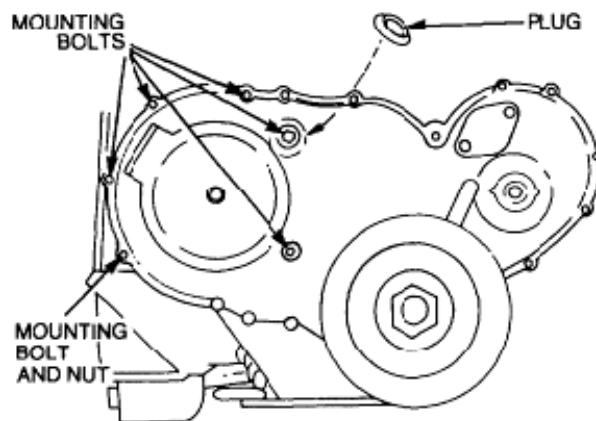

Figure 32 Injection Pump Removal
- r. Remove the seven injection pump mounting bolts (Figure 32).